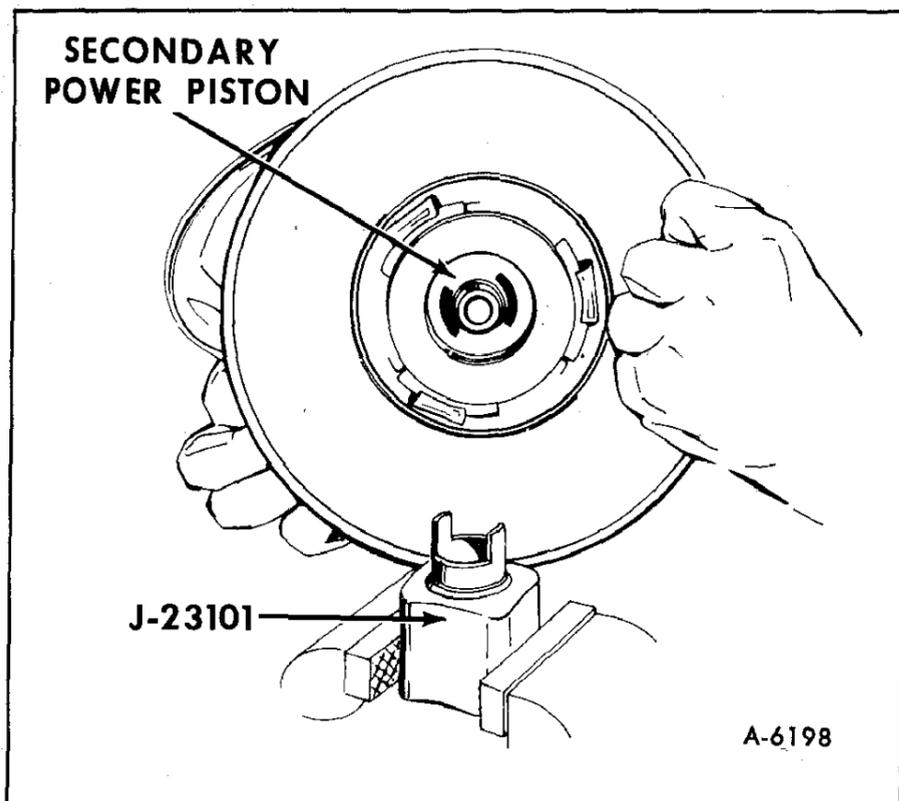

Figure 11—Positioning Secondary Power Piston on Tool J-23101
3. Mount double-ended Tool J-23101 (with large diameter end up) in a vise. Position the secondary power piston so that the two radial slots in the piston fit over the ears (tang) of the tool (figure 11).
17. Mount Tool J-23101 (with large diameter end up) in a vise. Position the secondary power piston so that the radial slots in the piston fit over the ears (tang) of the tool. Apply a light coat of Delco Silicone Lube #5459912 (or equivalent) to the tube of the secondary power piston (figure 11).